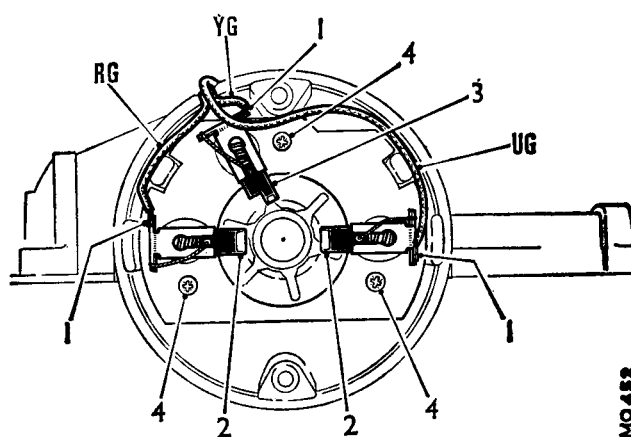

Fig. Nb.9
- Examine the brush gear assembly, which must be replaced before either of the main brushes is worn to the minimum length of  $\frac{3}{16}$  in. (5 mm.), or the narrow section of the third brush (two-speed models) is worn down to the full width of the brush (see Fig. Nb.9).
- Check that the brushes move freely in the boxes and test the brush spring pressure with a push-type gauge. The gauge reading should be 5 to 7 oz. (140 to 200 gm.) when the bottom of the brush is level with the end of the slot in the brush box (see Fig. Nb.9). Renew the brush gear assembly if the springs are unsatisfactory.
- If either the brush gear or switch assembly requires replacing, unsolder the motor supply leads at the brush boxes. If a new switch is to be fitted to a single-speed motor remove the third wire, yellow and green, at the switch terminal. Use high-melting-point solder to reconnect the leads to the brush boxes, in the order shown in Fig. Nb.9, when refitting the new assembly(ies); ensure that the leads are inside the recess in the switch unit moulding when refitting it to the gearbox.